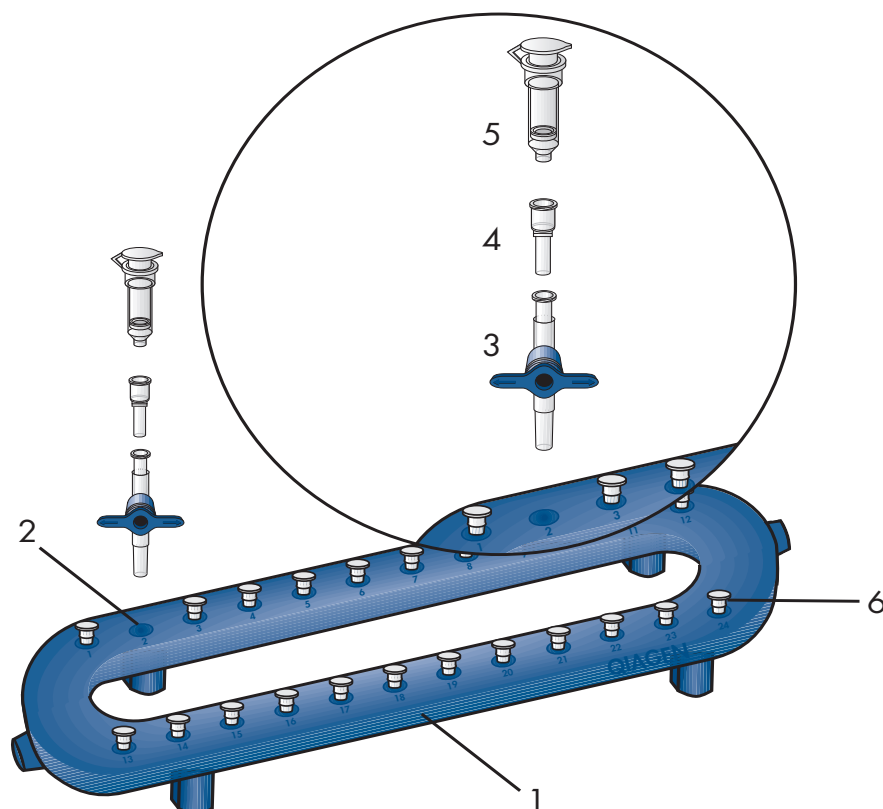

Figure 3. Setting up the QIAvac 24 Plus with QIAamp Mini spin columns using VacValves and VacConnectors.
2. **Recommended: Insert a VacValve into each luer slot of the QIAvac 24 Plus that is to be used (see Figure 3, page 24).**
3. **Insert a VacConnector into each VacValve (see Figure 3) or directly into each luer slot of the QIAvac 24 Plus that is to be used. Close unused luer slots with luer plugs or close the inserted VacValve.**
4. **Place the QIAamp Mini spin columns into the VacConnectors on the manifold (see Figure 3).**